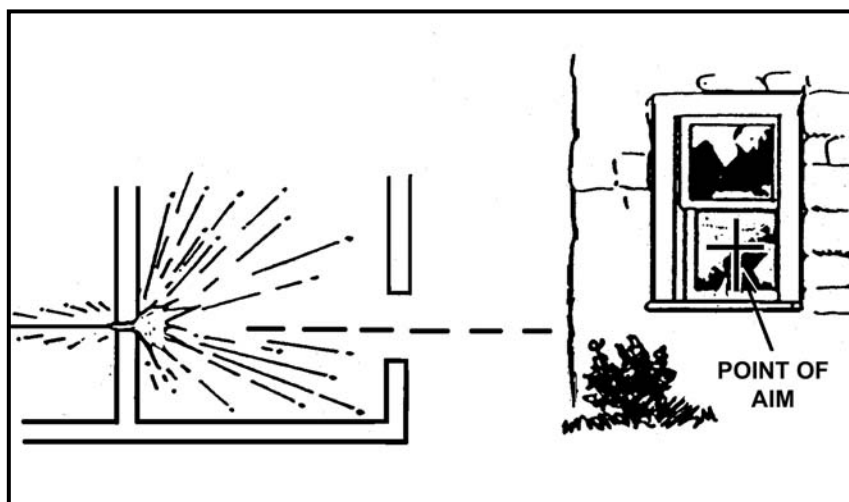

Figure 7-1. Aiming point for 40-mm HEDP.
(1) If projected into an interior room, the 40-mm HEDP can penetrate all interior partition-type walls. It splinters plywood and plaster walls, making a hole large enough to fire a rifle through. It is better to have HEDP rounds pass into a room and explode on a far wall, even though much of the round's energy is wasted penetrating the back wall (Figure 7-1). The fragmentation produced in the room causes more casualties than the HE jet formed by the shaped charge.
(2) The fragments from the HEDP round do not reliably penetrate interior walls. Office furniture sandbags, helmets, and protective vests (flak jackets) also stop them. The M203 dual-purpose weapon has the inherent accuracy to place grenades into windows at 125 meters and bunker apertures at 50 meters. These ranges are significantly reduced as the angle of obliquity increases. Combat experience shows that M203 gunners cannot consistently hit windows at 50 meters when forced to aim and fire quickly.